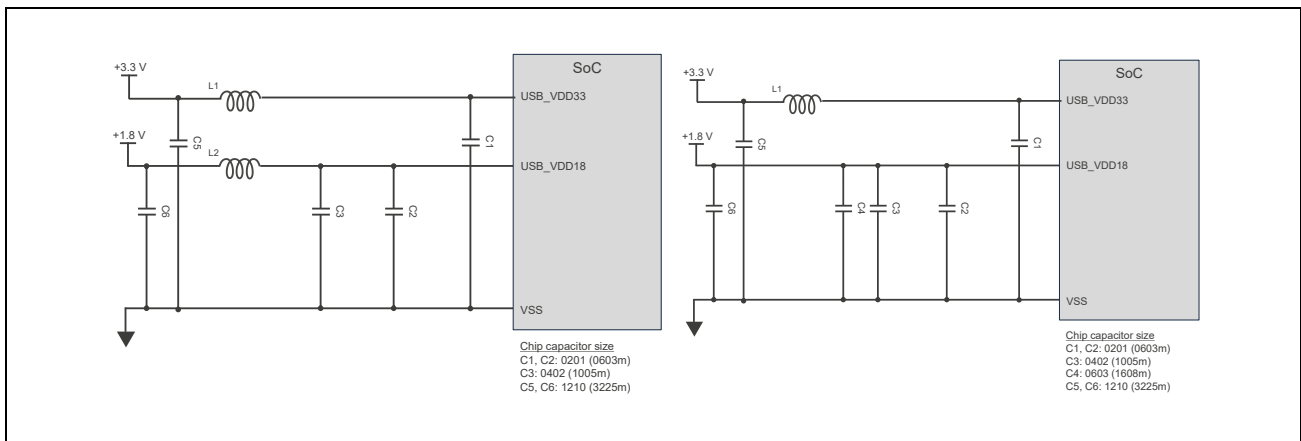

Figure 2.1 Decoupling Capacitors in the Case of One Port (Left: With Separation Inductor, Right: Without Separation Inductor)
**Figure 2.1** shows configurations of decoupling capacitors in the case of one port. The values of the capacitors and their configurations are examples of recommended values. Change the values and configurations according to the noise frequency and noise level.
**Table 2.2** lists the capacitor and inductor values for the respective parts shown in **Figure 2.1**.